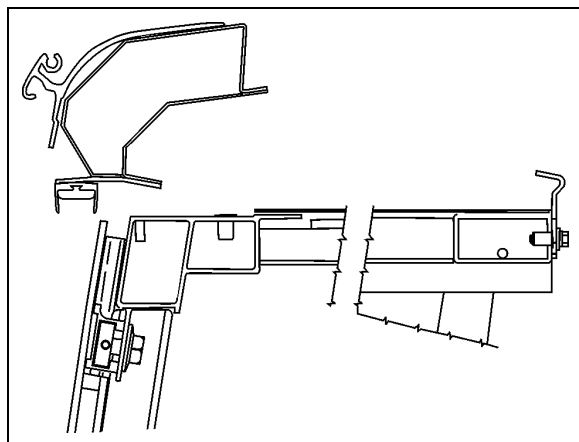

FIGURE 33: SLIDE-OUT 2" INSIDE – UPPER PART
8. Using the manual override procedure (paragraph 18), move the slide-out 2" inside the vehicle, so the seal is accessible from outside (FIGURE 33).